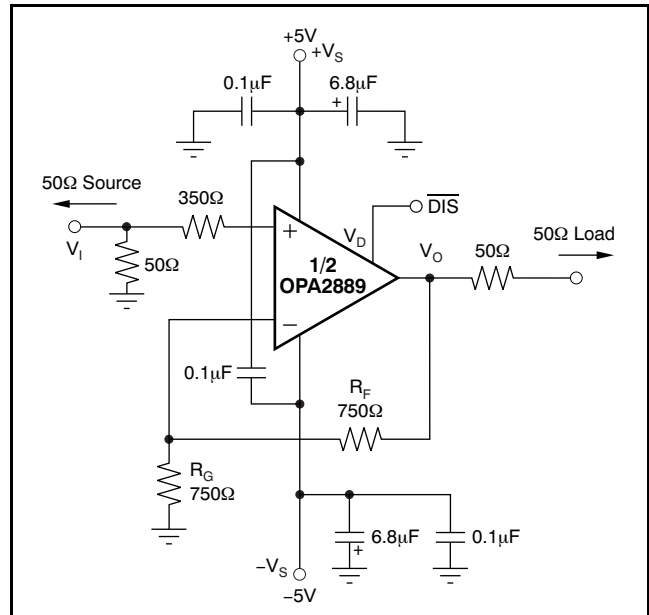
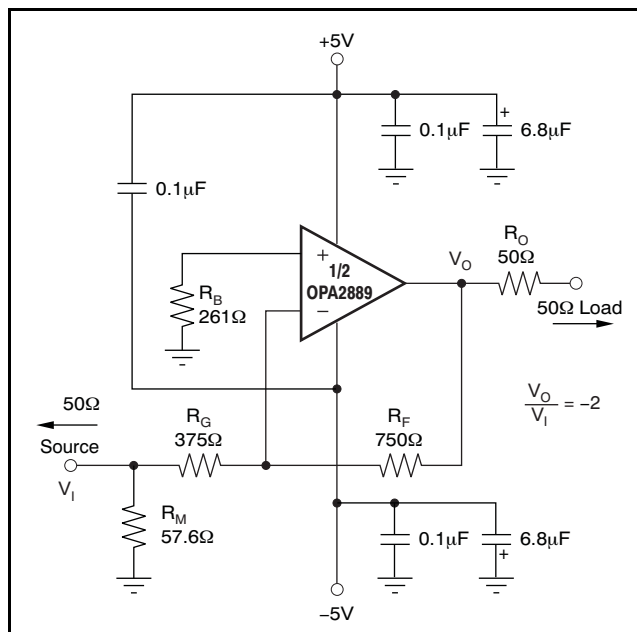

Figure 50. DC-Coupled, G = +2, Bipolar Supply, Specification and Test Circuit
Figure 60. Gain of –2V/V Example Circuit
At $T_A = +25^\circ C$, $G = +2V/V$, $R_F = 750\Omega$, and $R_L = 100\Omega$, unless otherwise noted. See Figure 50.
Figure 50 shows the dc-coupled, gain of +2V/V, dual power-supply circuit configuration used as the basis of the ±5V Electrical Characteristics and ±5V Typical Characteristics. This illustration is for one channel; the other channel is connected similarly. For test purposes, the input impedance is set to 50Ω with a resistor to ground and the output impedance is set to 100Ω. Voltage swings reported in the Electrical Characteristics are taken directly at the input and output pins, while output powers (dBm) are at the matched 50Ω load. For the circuit of Figure 50, the total effective load will be 100Ω || 1.5kΩ. The disable control line (MSOP-10 package only) is typically left open for normal amplifier operation. Two optional components are included in Figure 50. An additional resistor (350Ω) is included in series with the noninverting input. Combined with the 25Ω dc source resistance looking back towards the signal generator, this resistor gives an input bias current cancelling resistance that matches the 375Ω source resistance seen at the inverting input (see the DC Accuracy and Offset Control section). In addition to the usual power-supply decoupling capacitors to ground, a 0.1μF capacitor is included between the two power-supply pins. In practical printed circuit board (PCB) layouts, this optional-added capacitor typically improves the 2nd-harmonic distortion performance by 3dB to 6dB.
A good rule of thumb is to target the parallel combination of R_F and R_G (see Figure 50) to be less than approximately 400Ω. The combined impedance $R_F \parallel R_G$ interacts with the inverting input capacitance, placing an additional pole in the feedback network and thus, a zero in the forward response. Assuming a 2pF total parasitic on the inverting node, holding $R_F \parallel R_G < 400\Omega$ keeps this pole above 160MHz. By itself, this constraint implies that the feedback resistor R_F can increase to several kΩ at high gains. This increase in resistor size is acceptable as long as the pole formed by R_F and any parasitic capacitance appearing in parallel is kept out of the frequency range of interest.
Voltage-feedback op amps exhibit decreasing closed-loop bandwidth as the signal gain increases. In theory, this relationship is described by the Gain Bandwidth Product (GBP) shown in the Electrical Characteristics. Ideally, dividing GBP by the noninverting signal gain (also called the Noise Gain, or NG) predicts the closed-loop bandwidth. In practice, this principle only holds true when the phase margin approaches 90°, as it does in high gain configurations. At low gains (increased feedback factors), most amplifiers exhibit a more complex response with lower phase margin. The OPA2889 is compensated to give a slightly peaked response in a noninverting gain of 2V/V (see Figure 50). This compensation results in a typical gain of +2V/V bandwidth of 60MHz, far exceeding that predicted by dividing the 75MHz GBP by 2. Increasing the gain causes the phase margin to approach 90° and the bandwidth to more closely approach the predicted value of (GBP/NG). At a gain of +10, the 8MHz bandwidth shown in the Electrical Characteristics agrees closely with that predicted using the simple formula and the typical GBP of 75MHz.
The frequency response in a gain of +2V/V may be modified to achieve exceptional flatness simply by increasing the noise gain to 2.5V/V. One way to modify the response without affecting the +2V/V signal gain, is to add a 750Ω resistor across the two inputs, as shown in the circuit of Figure 50. A similar technique may be used to reduce peaking in unity-gain (voltage follower) applications. For example, by using a 750Ω feedback resistor along
The OPA2889 is a general-purpose, wideband, voltage-feedback op amp; therefore, all of the familiar op amp application circuits are available to the designer. Inverting operation is one of the more common requirements and offers several performance benefits. See Figure 60 for a typical inverting configuration where the I/O impedances and signal gain from Figure 50 are retained in an inverting circuit configuration.
In the inverting configuration, three key design considerations must be noted. The first is that the gain resistor (R_G) becomes part of the signal channel input impedance. If input impedance matching is desired (which is beneficial whenever the signal is coupled through a cable, twisted-pair, long PCB trace, or other transmission line conductor), R_G may be set equal to the required termination value and R_F adjusted to give the desired gain. This consideration is the simplest approach and results in optimum bandwidth and noise performance. However, at low inverting gains, the resultant feedback resistor value can present a significant load to the amplifier output. For an inverting gain of –2V/V, setting R_G to 50Ω for input matching eliminates the need for R_M but requires a 100Ω feedback resistor. This approach has the interesting advantage that the noise gain becomes equal to 2V/V for a 50Ω source impedance—the same as the noninverting circuits considered in Figure 60. The amplifier output, however, now sees the 100Ω feedback resistor in parallel with the external load. In general, the feedback resistor should be limited to the 200Ω to 1.5kΩ range. In this case, it is preferable to increase both the R_F and R_G values (see Figure 60), and then achieve the input matching impedance with a third resistor (R_M) to ground. The total input impedance becomes the parallel combination of R_G and R_M .
The second major consideration, touched on in the previous paragraph, is that the signal source impedance becomes part of the noise gain equation and influences the bandwidth. For the example in Figure 60, the R_M value combined in parallel with the external 50Ω source impedance yields an effective driving impedance of $50\Omega \parallel 57.6\Omega = 26.7\Omega$. This impedance is added in series with R_G for calculating the noise gain (NG). The resulting NG is 2.86V/V for Figure 60, as opposed to only 2V/V if R_M could be eliminated as discussed above. Therefore, the bandwidth is slightly lower for the gain of –2V/V circuit of Figure 60 than for the gain of +2V/V circuit of Figure 50.
The third important consideration in inverting amplifier design is setting the bias current cancellation resistor on the noninverting input (R_B). If this resistor is set equal to the total dc resistance looking out of the inverting node, the output dc error, as a result of the input bias currents, is reduced to (Input Offset Current) $\times R_F$. If the 50Ω source impedance is dc-coupled in Figure 60, the total resistance to ground on the inverting input is 402Ω.
The OPA2889 provides good distortion performance into a 200Ω load on $\pm 5V$ supplies. Relative to alternative solutions, it provides exceptional performance into lighter loads and/or operating on a single +5V supply. Generally, until the fundamental signal reaches very high frequency or power levels, the 2nd-harmonic dominates the distortion with a negligible 3rd-harmonic component. Focusing then on the 2nd-harmonic, increasing the load impedance improves distortion directly. Remember that the total load includes the feedback network; in the noninverting configuration (see Figure 50), this total is the sum of $R_F + R_G$, while in the inverting configuration it is just R_F . Also, providing an additional supply-decoupling capacitor ($0.1\mu F$) between the supply pins (for bipolar operation) improves the 2nd-order distortion slightly (3dB to 6dB). Operating differentially also lowers 2nd-harmonic distortion terms (see the plot on the front page).
Evaluating these two equations for the OPA2889 circuit and component values (see Figure 50) gives a total output spot noise voltage of 18.2nV/√Hz and a total equivalent input spot noise voltage of 9.1nV/√Hz. This total includes the noise added by the bias current cancellation resistor (350Ω) on the noninverting input. This total input-referred spot noise voltage is slightly higher than the 8nV/√Hz specification for the op amp voltage noise alone. This result is the case as long as the impedances appearing at each op amp input are limited to the
previously recommend maximum value of 400Ω. Keeping both ($R_F \parallel R_G$) and the noninverting input source impedance less than 400Ω satisfies both noise and frequency response flatness considerations. Because the resistor-induced noise is relatively negligible, additional capacitive decoupling across the bias current cancellation resistor (R_B) for the inverting op amp configuration of Figure 60 is not required.
The balanced input stage of a wideband voltage-feedback op amp allows good output dc accuracy in a wide variety of applications. The power-supply current trim for the OPA2889 gives even tighter control than comparable amplifiers. Although the high-speed input stage does require relatively low $\pm 0.75\mu A$ input bias current, the close matching between them may be used to reduce the output dc error caused by this current. The total output offset voltage may be reduced by matching the dc source resistances appearing at the two inputs. This matching reduces the output dc error resulting from the input bias currents to the offset current times the feedback resistor. Evaluating the configuration of Figure 50, and using worst-case +25°C input offset voltage and current specifications, gives a worst-case output offset voltage equal to: